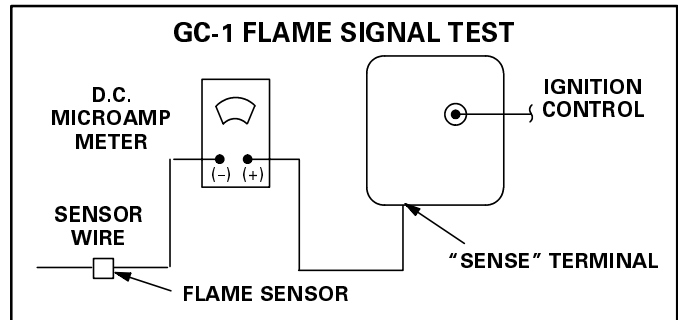

FIGURE 41
- 1 – Place meter in series between ignition control and sensor wire. Connect positive (+) lead of meter to ignition control sensor connection and negative (-) lead of the meter to sensor wire. See figure 41.